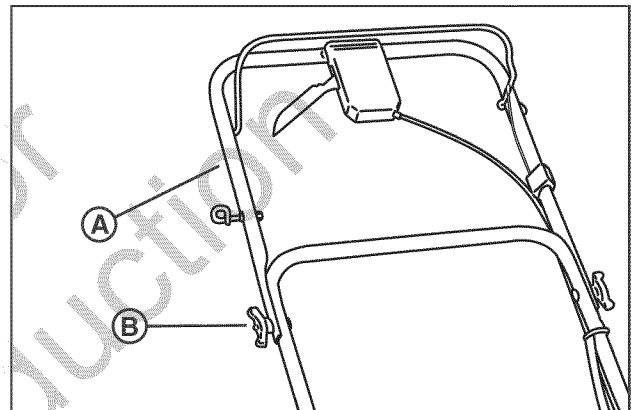

Figure 2: Unfolding the upper handle
4. Raise the lower handle, aligning it with one of the three sets of holes in the handle brackets (C). Reinstall the bolts, washers and wingnuts.
5. Put the upper handle (A, Figure 2) in the operating (upright) position. Tighten the wingnuts (B).